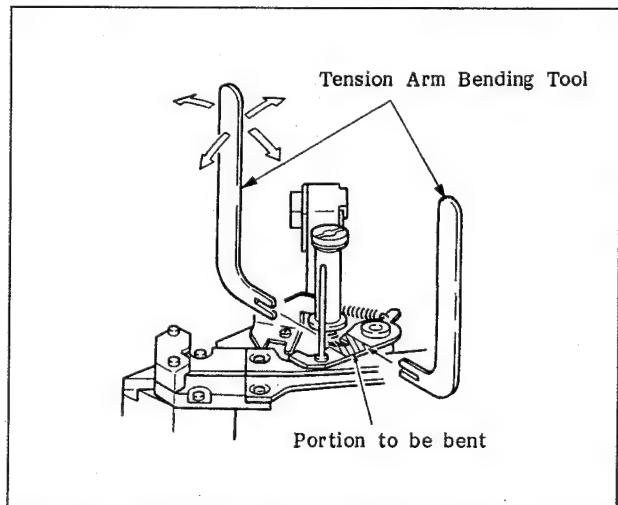

Fig. 6-54 Adjustment of the Inclination of the Tension Arm Shaft
Then, check that the clearance between the tension regulator shaft and the S plate tool in both, the upper and the lower portions is less than $50\ \mu\text{m}$. If it is not, adjust it by bending the portion shown in Figure 6-54 by the tension arm bending tool.
6. In a similar manner, check that the clearance between the tension regulator shaft and the S plate tool is less than $50\ \mu\text{m}$ when the S plate tool fits against the S3 guide roller without clearance, as shown in Figure 6-53(b). If it is not, adjust it by bending the portion shown in Figure 6-54.